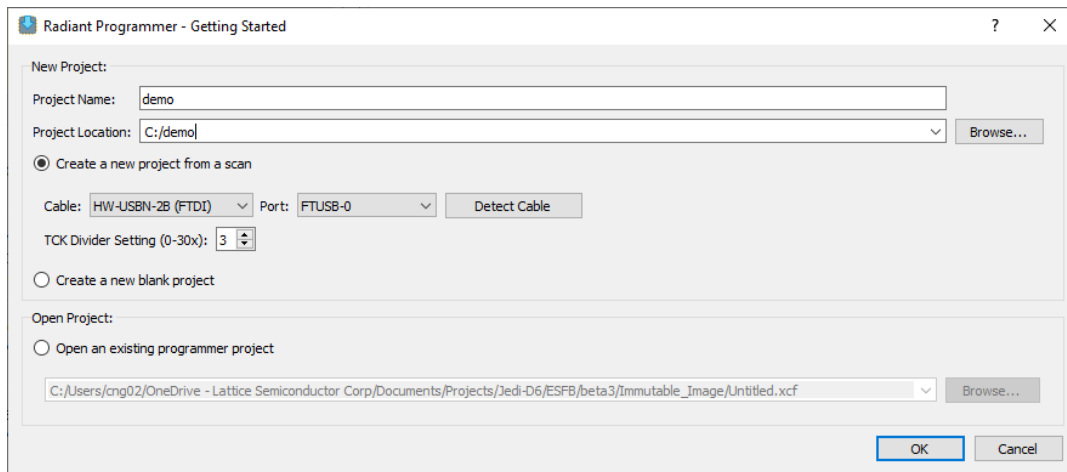

Figure 6.14. Create New or Open Existing Project Window
2. Fill in the necessary information to create a new project or open an existing project. See Figure 6.14.